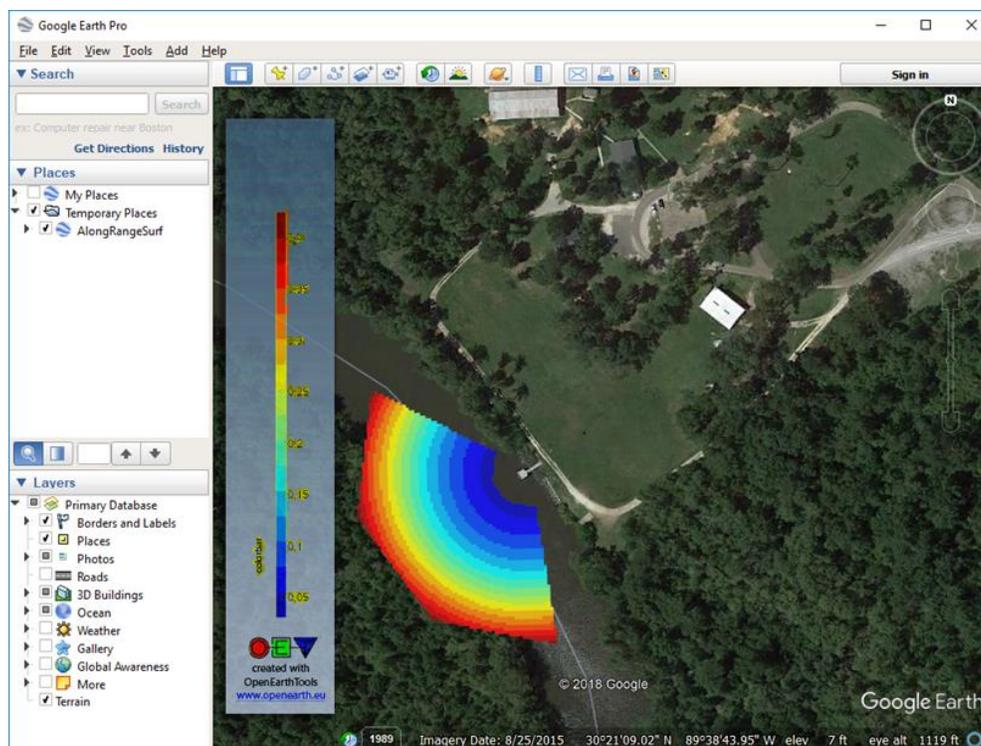

Figure 5: Along-range resolution surface plot of the camera array viewed in Google Earth
- AlongRangeSurf.kml and CrossRangeSurf.kml – These files contains the along-range and cross-range resolution plots, identical to AlongRangeRes.png and CrossRangeRes.png, that contain the geographic location of the camera footprint vertices. When opened in Google Earth, this file will show a resolution map overlay at the station location, providing a geospatial visualization of the estimated camera array field-of-view (Figure 5).